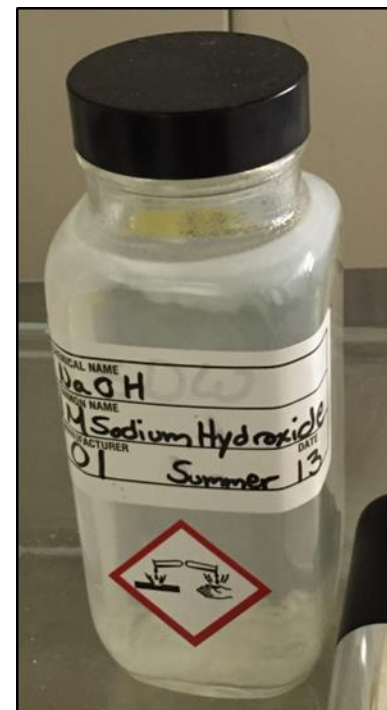

Figure 1: Chemical name and GHS label indicating hazards
1. Individual Bottle Labeling (e.g. Figure 1)
2. Checkboxes, NFPA labeling system or GHS symbols (e.g. Figure 1) can be used to communicate the hazards. Hazards can also be written, in full, on the label (i.e. "corrosive" or "toxic").